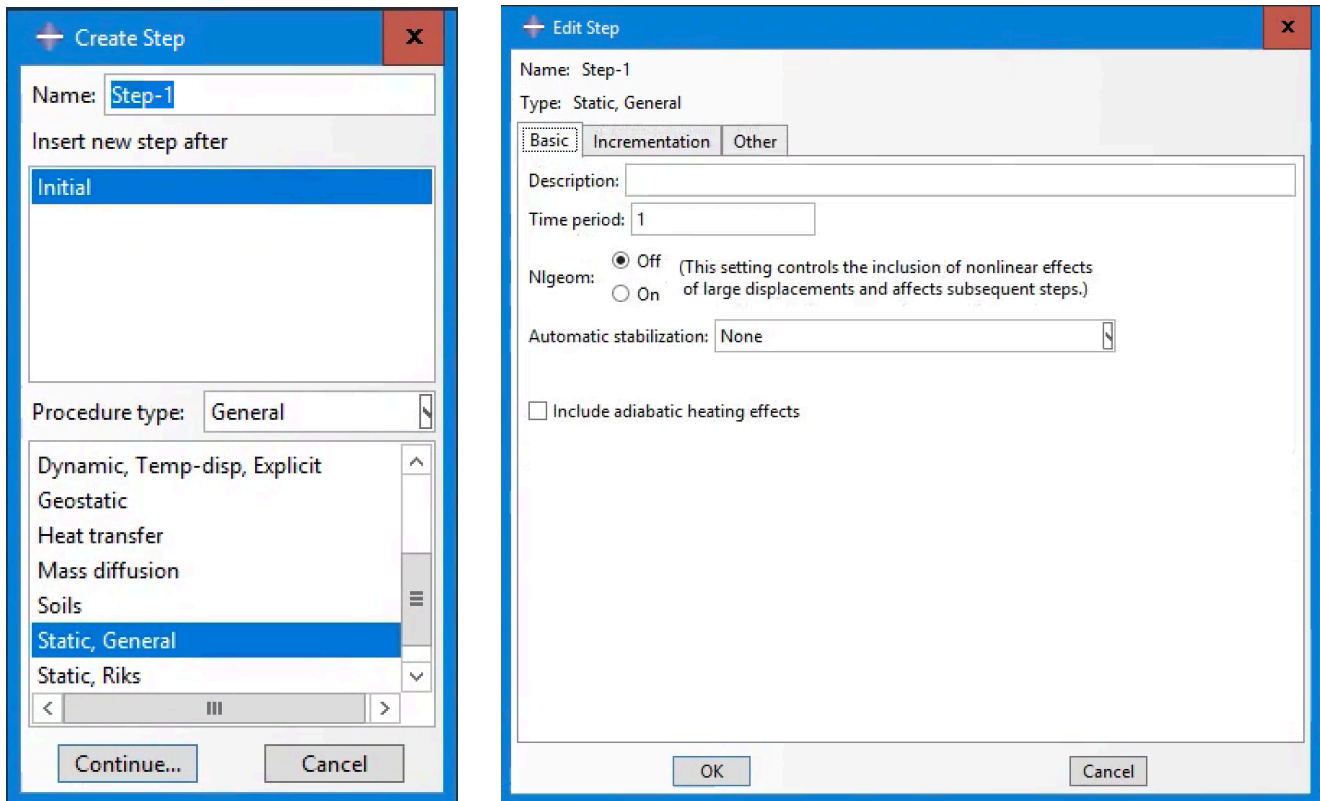

Figure 18 Configuring analysis: Creating a step (left) and setting its configuration (right)
- In this simple analysis, the load is applied in one step and a static analysis can solve the problem. Therefore, in the Create Step dialog box, select **Static, General**, and click on **Continue**. In the **Edit step** dialog box, leave all the details as they are, and click on **OK** (Figure18).